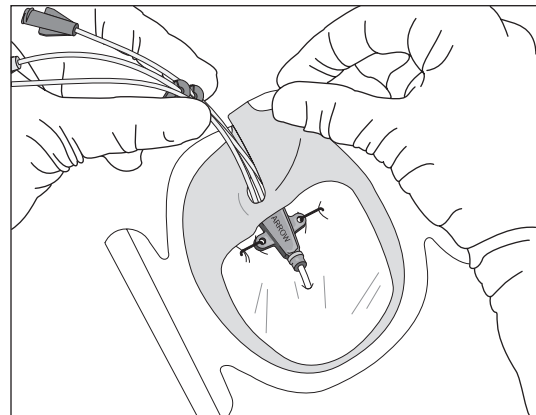

Figure 6
- Overlap softcloth tabs under catheter to form a tight seal around catheter hub and lumens (refer to Figure 6).